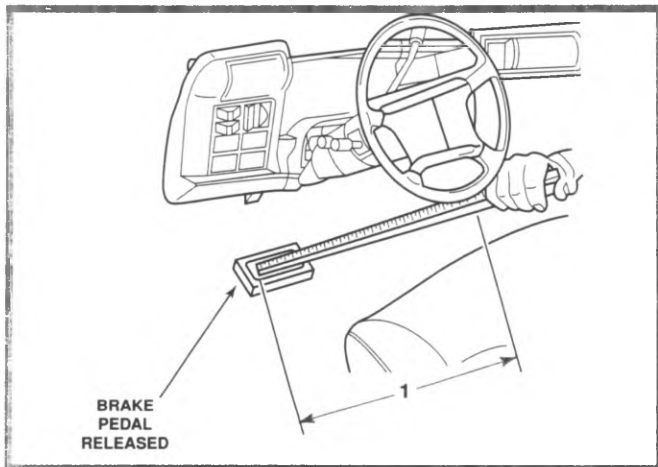

Figure 2-2, Checking Brake Pedal Travel (Measurement 1)
1. Take the first measurement with the brake pedal released (figure 2-2).